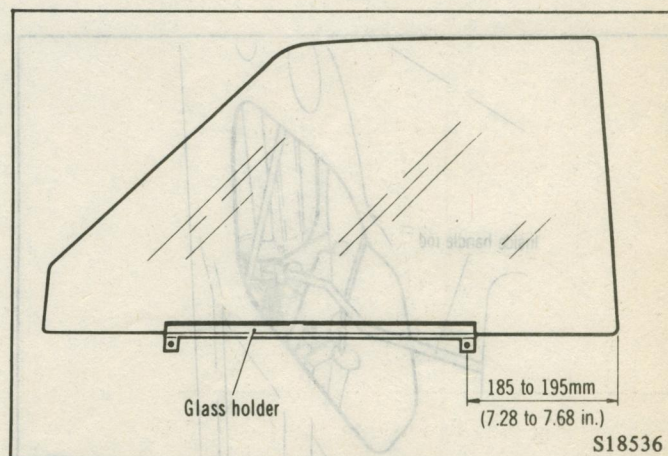

Fig. 61 Installing the Door Glass
(3) Install the door glass holder as illustrated in Fig. 61.